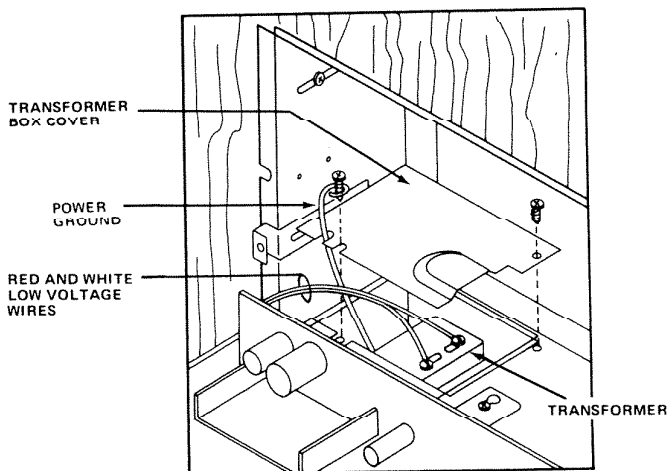

FIGURE 7
2. Connect two low voltage wires (red and white) to the transformer's terminal screws. See Figure 7.
3. Dress wires through raised section of transformer box cover and secure box cover with two screws. See Figure 7.
4. Make sure power ground is secured under one screw. See Figure 7.